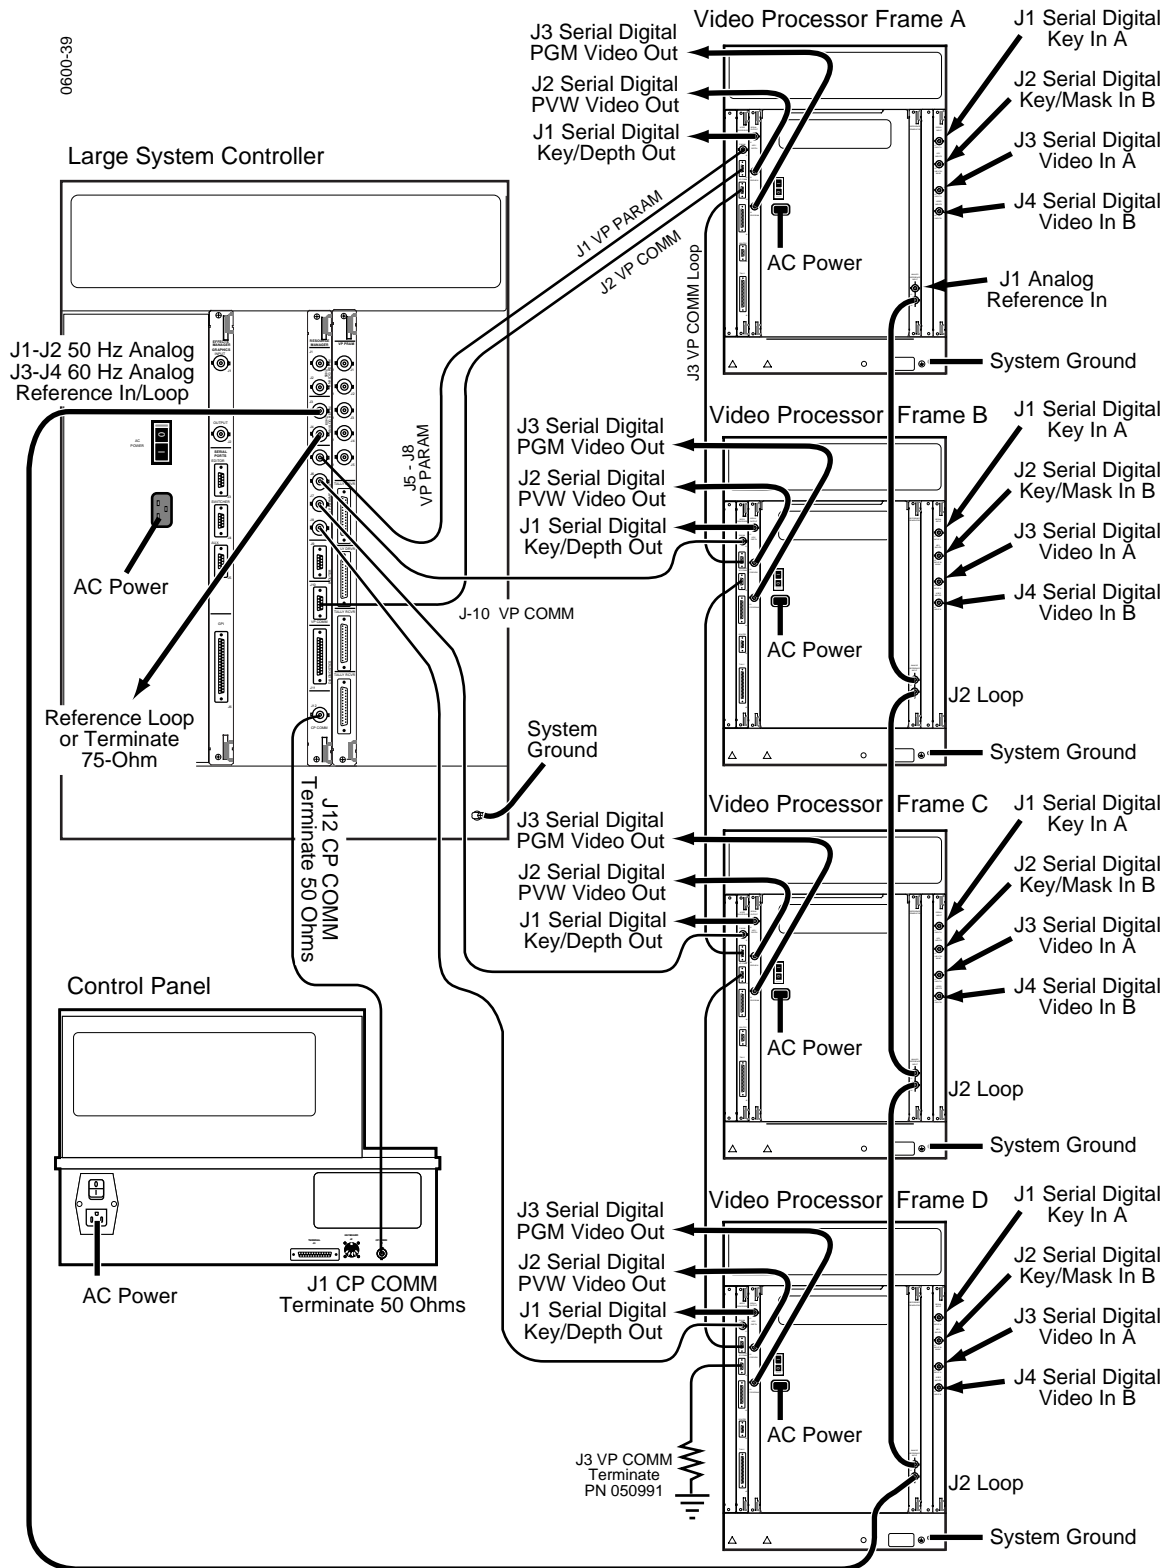
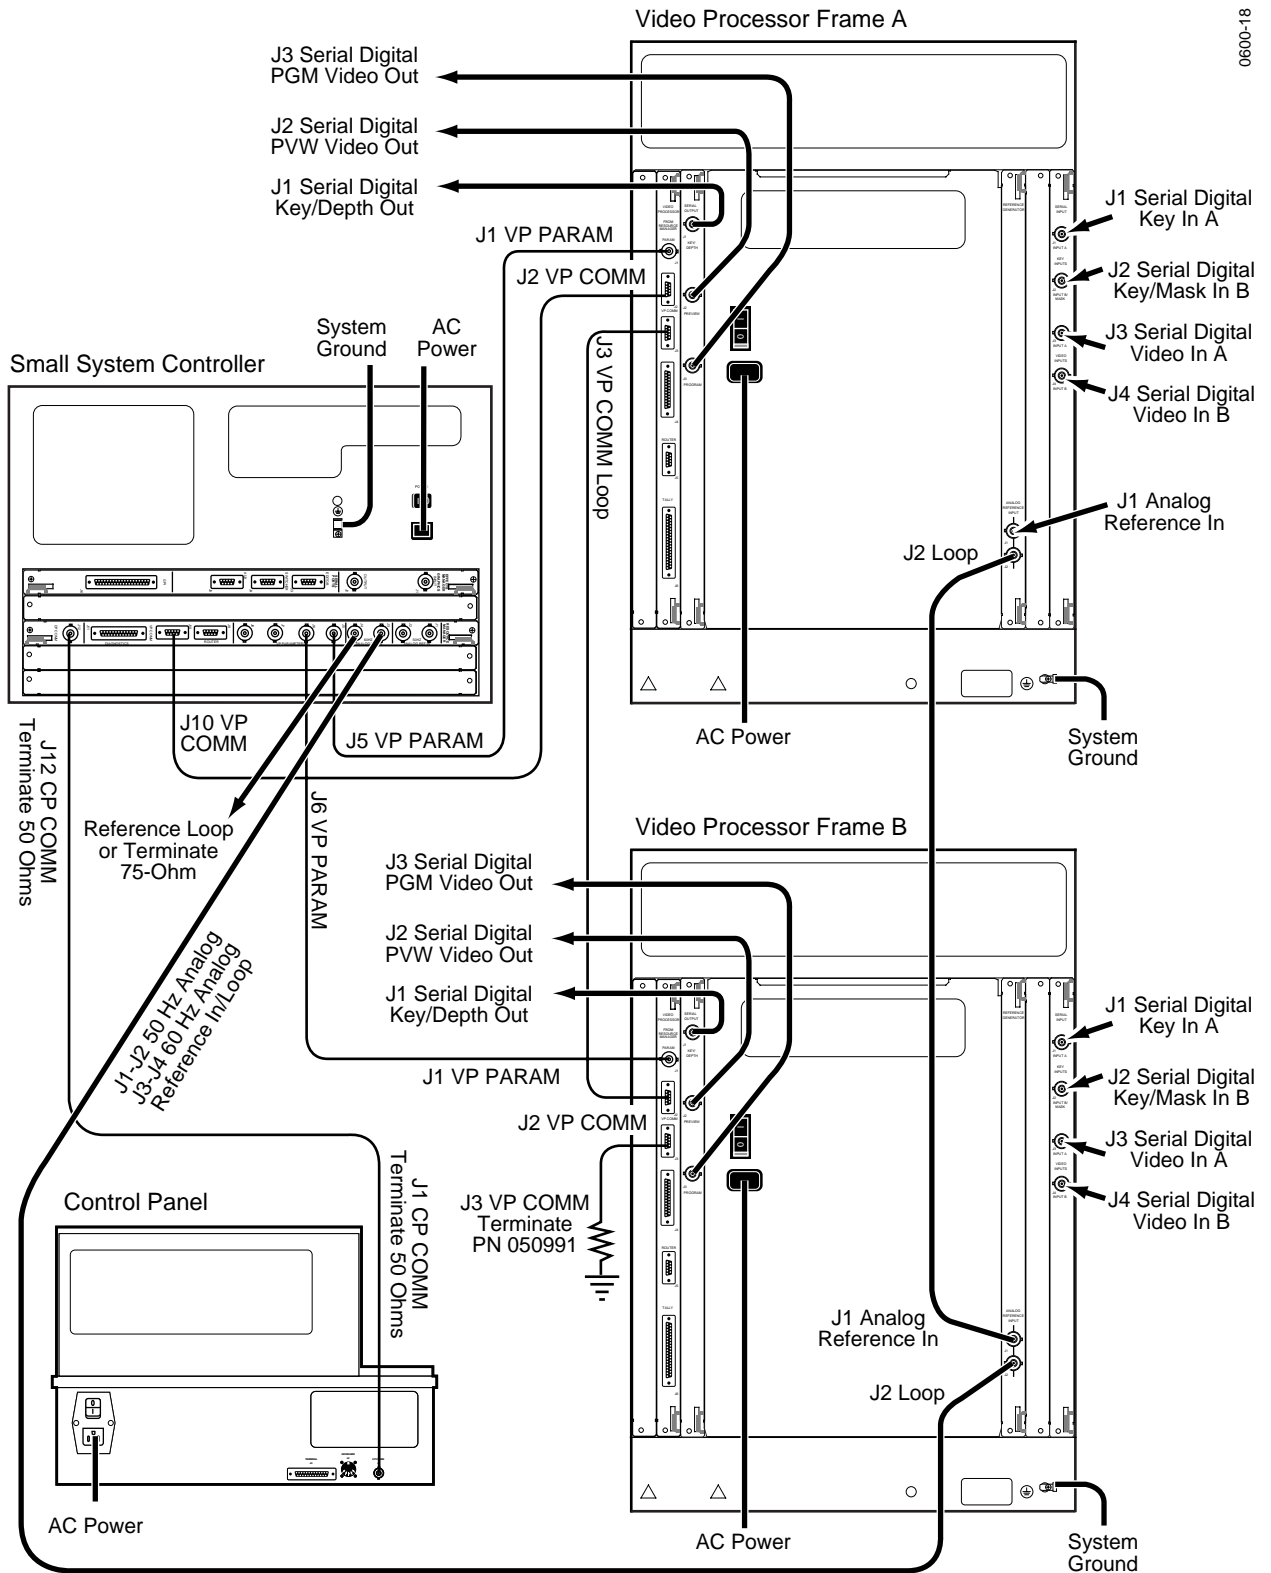

Figure 2-7. Multi-Channel Basic Cabling, Large System Controller
Figure 2-8. Multi-Channel Basic Cabling, Small System Controller
- b. On a multi-channel system connect the cable to J12 CP COMM on the Resource Manager module in the System Controller and terminate the cable (Figure 2-8, Figure 2-7).
Refer to Figure 2-7.
Refer to Figure 2-8.